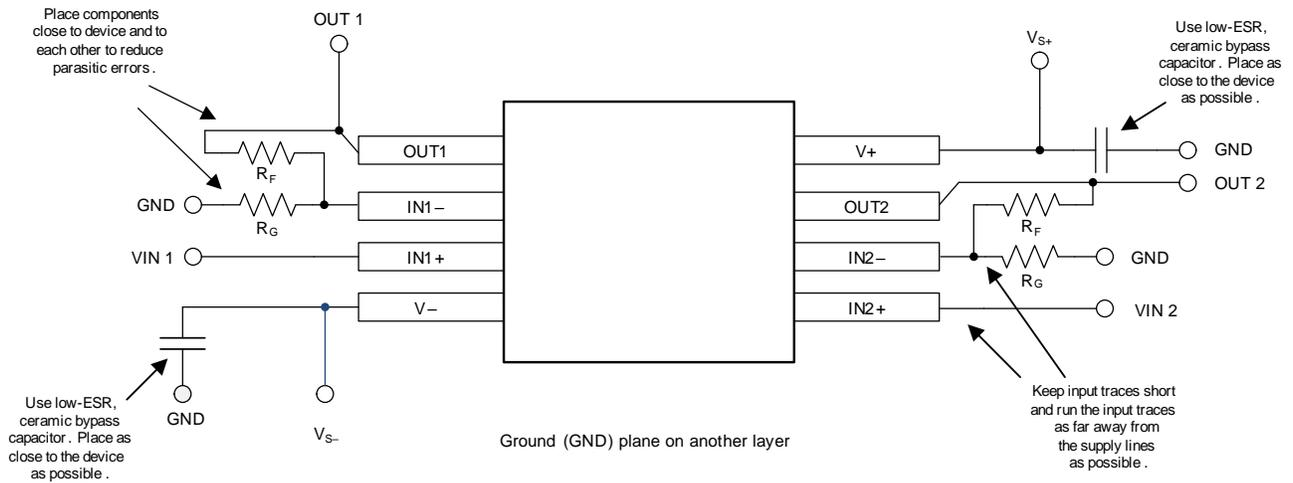

Figure 44. Layout Example
- Place the external components as close to the device as possible. As illustrated in Figure 44, keeping R_F and R_G close to the inverting input minimizes parasitic capacitance on the inverting input.